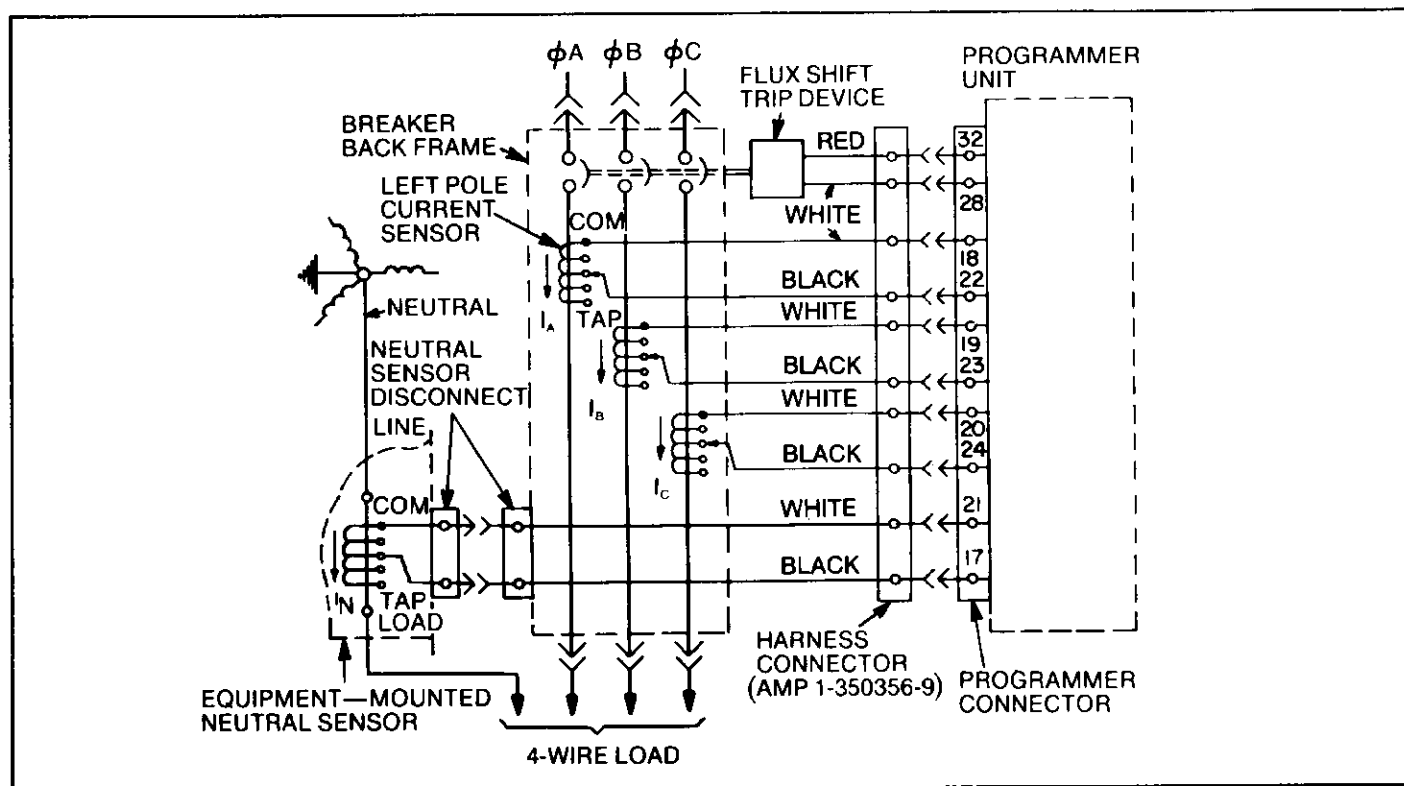

Fig. 24. Cabling diagram — MicroVersaTrip® with ground fault on 4-wire load
The outputs of the phase sensors and neutral sensor are connected to a programmer circuit which sums these values. The total value will remain zero as long as there is no ground current flowing. See cable diagram, Fig. 24.
4. On Ground Fault breakers serving 4-wire loads, check that the neutral sensor is properly connected (see cabling diagram, Fig. 24). In particular,